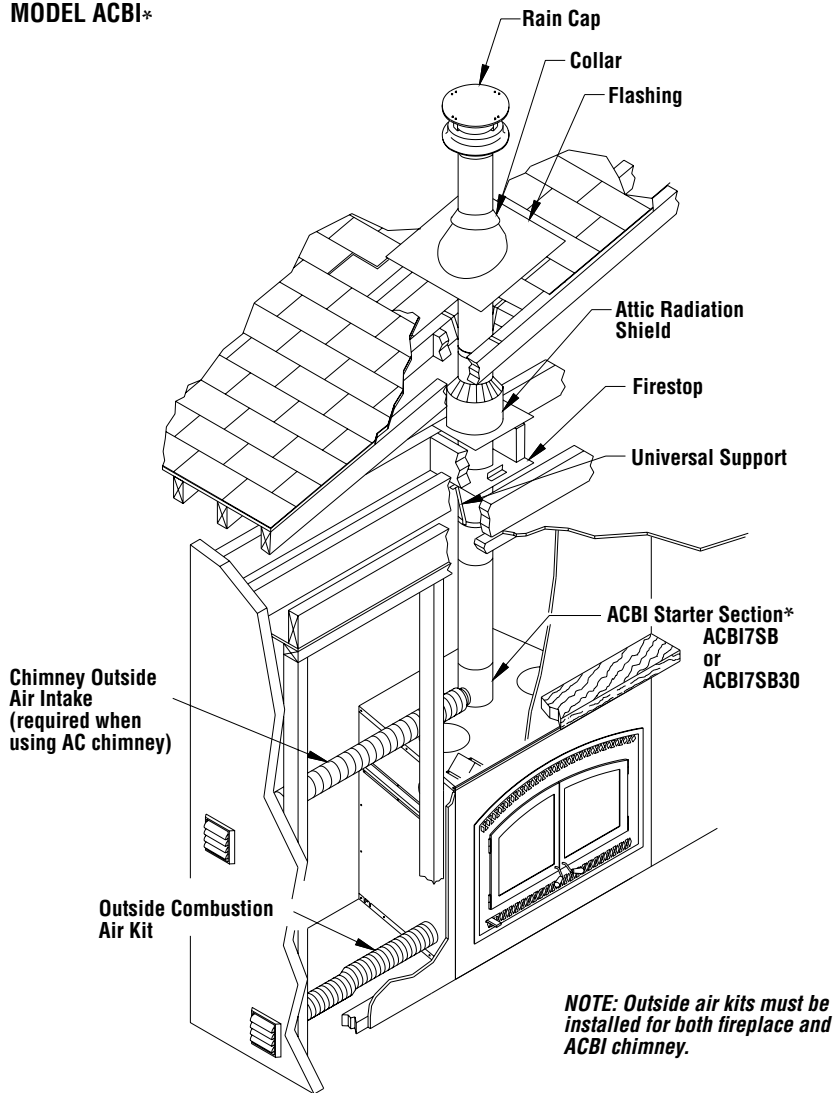

**Figure 22a**
2. From below, install a firestop in each ceiling/floor separation through which the chimney will pass. At the attic level, install an attic radiation shield from above (**Figures 22a and 22b**).
3. Use another elbow to turn the chimney vertically. Secure the elbow, using three (3) 1/2" (12 mm) screws (provided with the elbow).
5. From below, install a firestop (See **Figure 22a**).